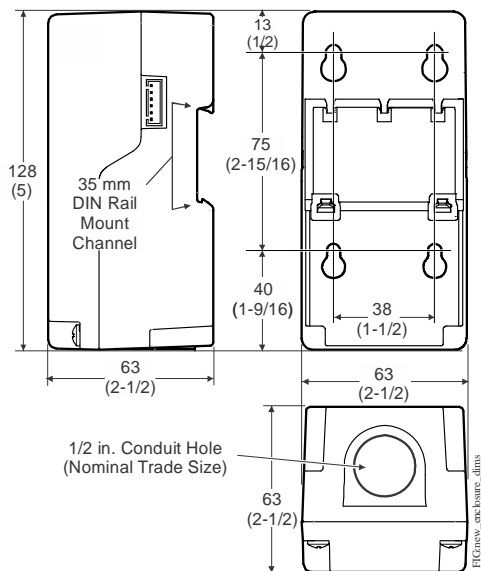

Figure 1: System 450 Module Dimensions, mm (in.)
1. Plug the modules together, remove the module covers, place the module assembly horizontally against the wall surface in a suitable location, and mark the mount hole locations on the mounting surface (Figure 1).